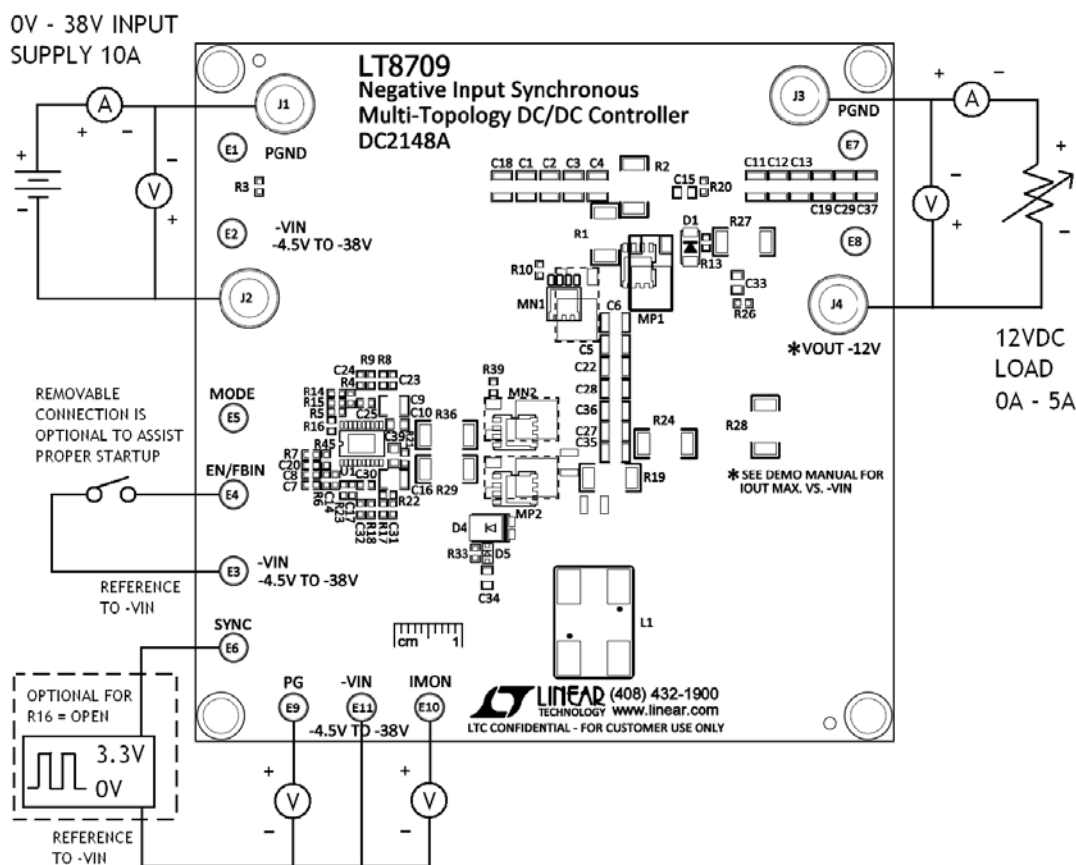
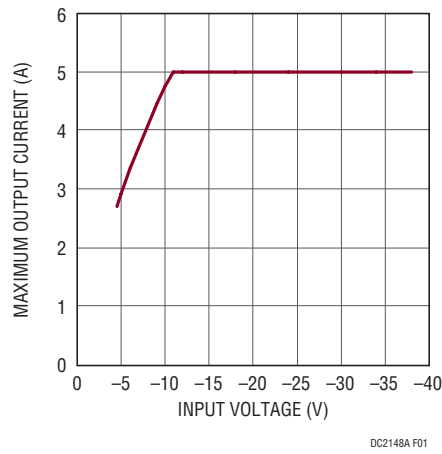

Figure 1. Proper Measurement Equipment Setup for DC2148A
Figure 2. Maximum Output Current vs Input Voltage
To use DC2148A to evaluate the performance of the LT8709, refer to Figure 1 for the proper measurement equipment setup, Figure 2 for the maximum output current versus input voltage and then follow the procedure:
1. Connect the EN/FBIN terminal to $-V_{IN}$ with a clip-on lead. Connect the power supply (with power off), load, and meters as shown in Figure 1.